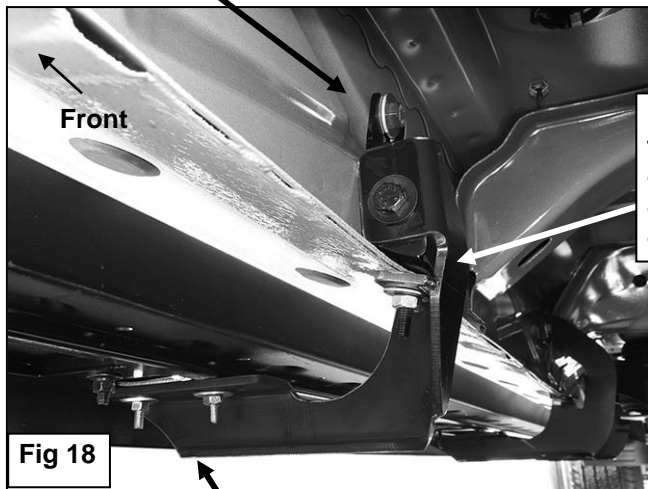

Fig 18
13. Repeat **Steps 5—7** to install the passenger side Running Board, **(Figure 18)**.